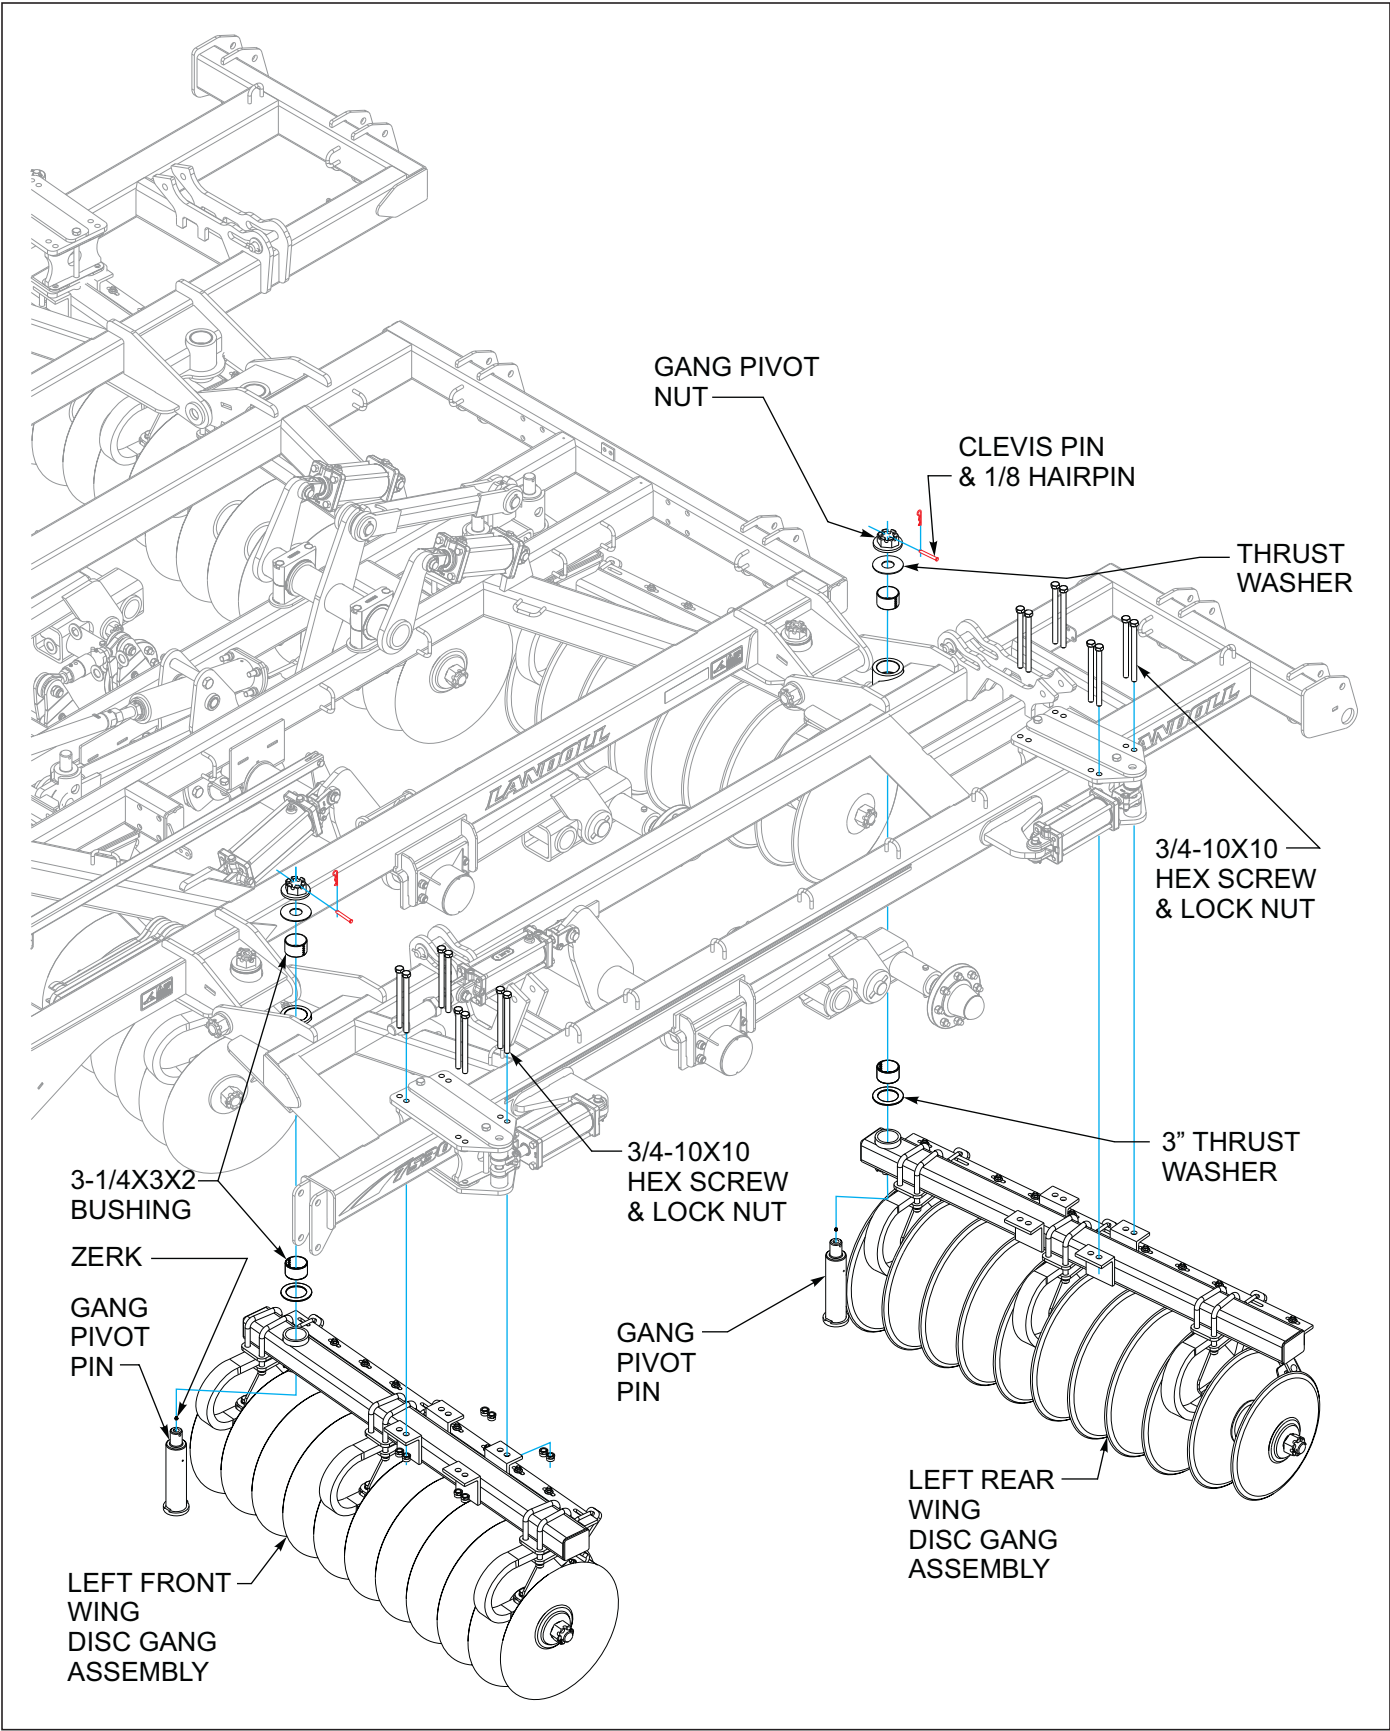
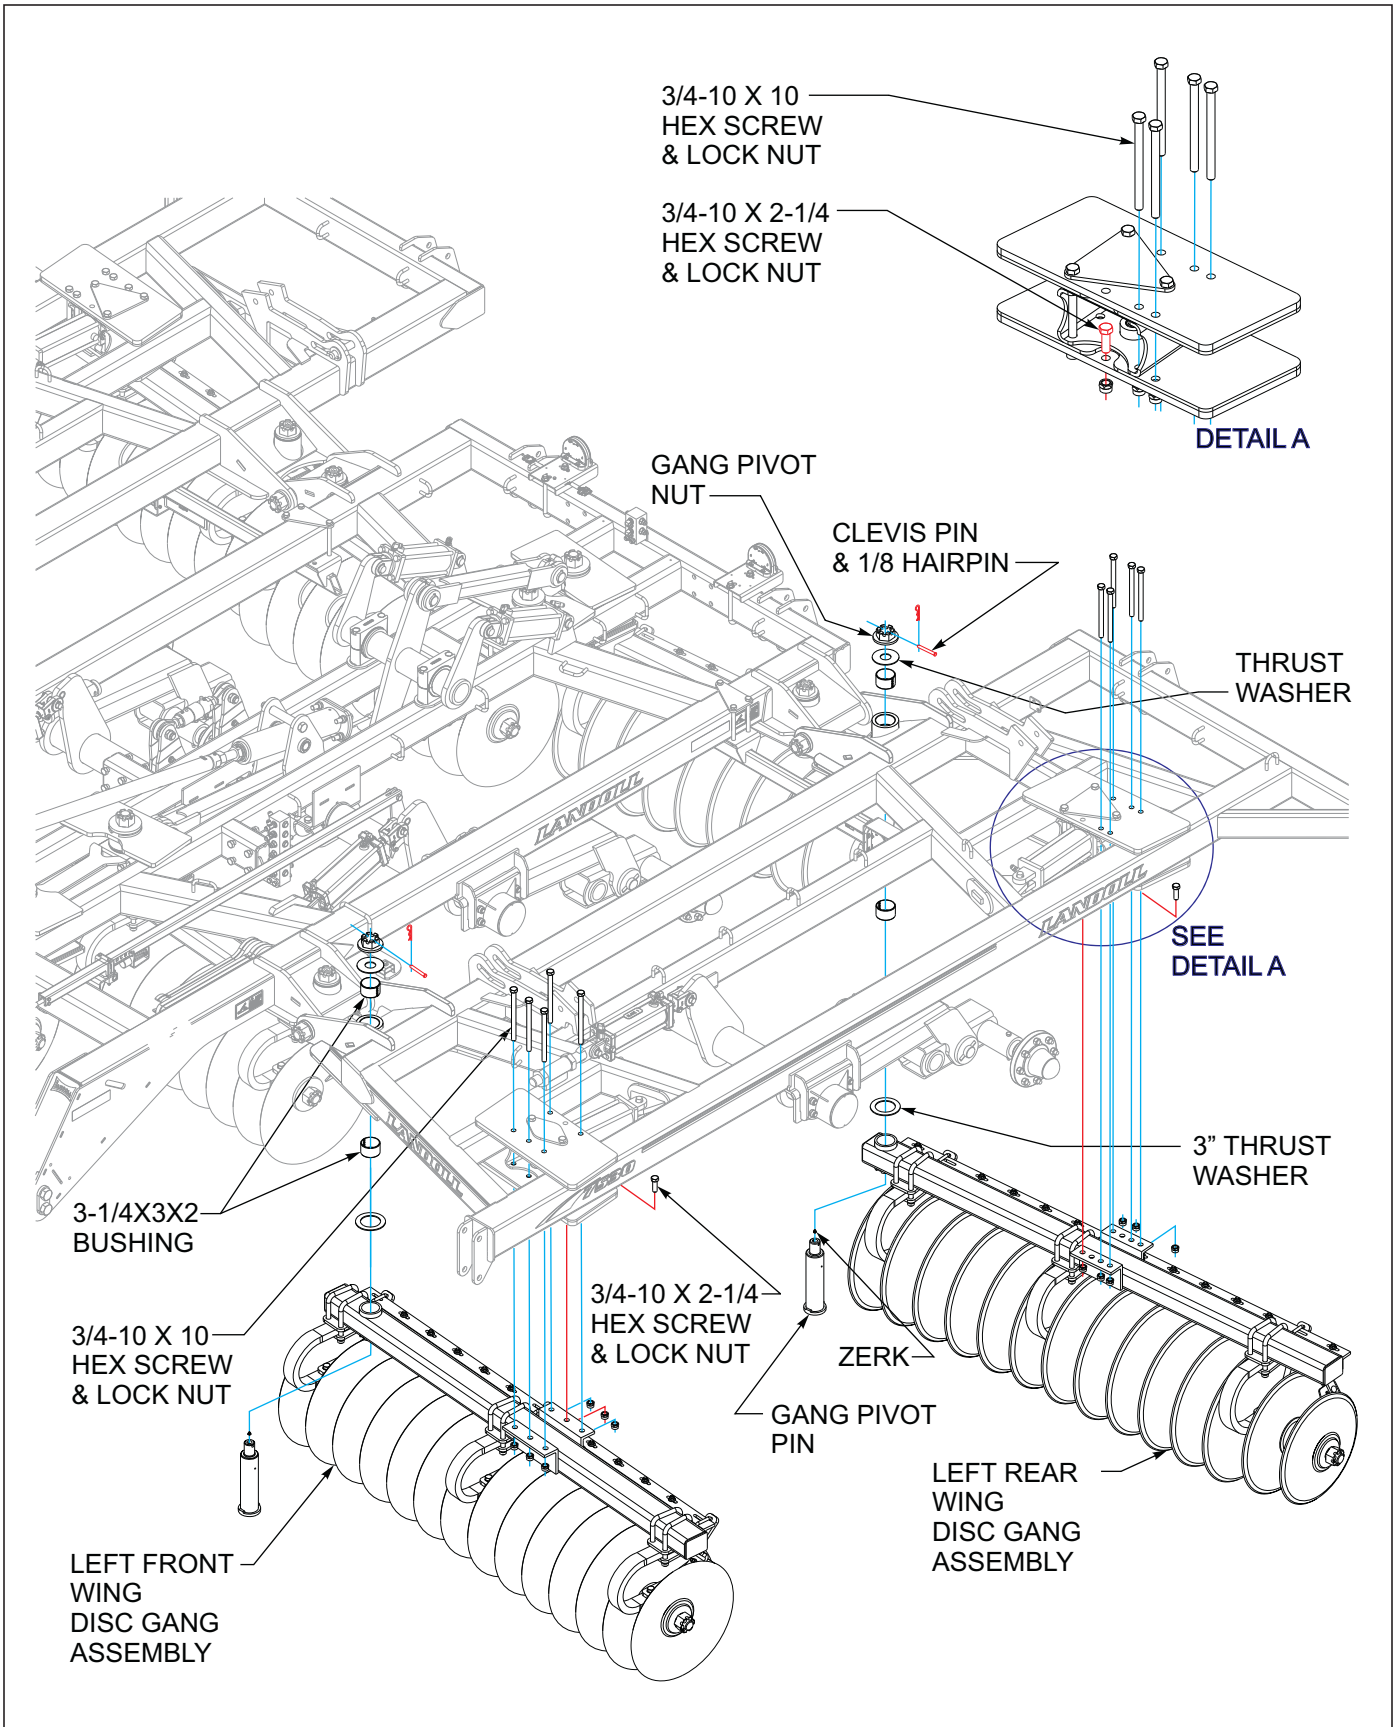
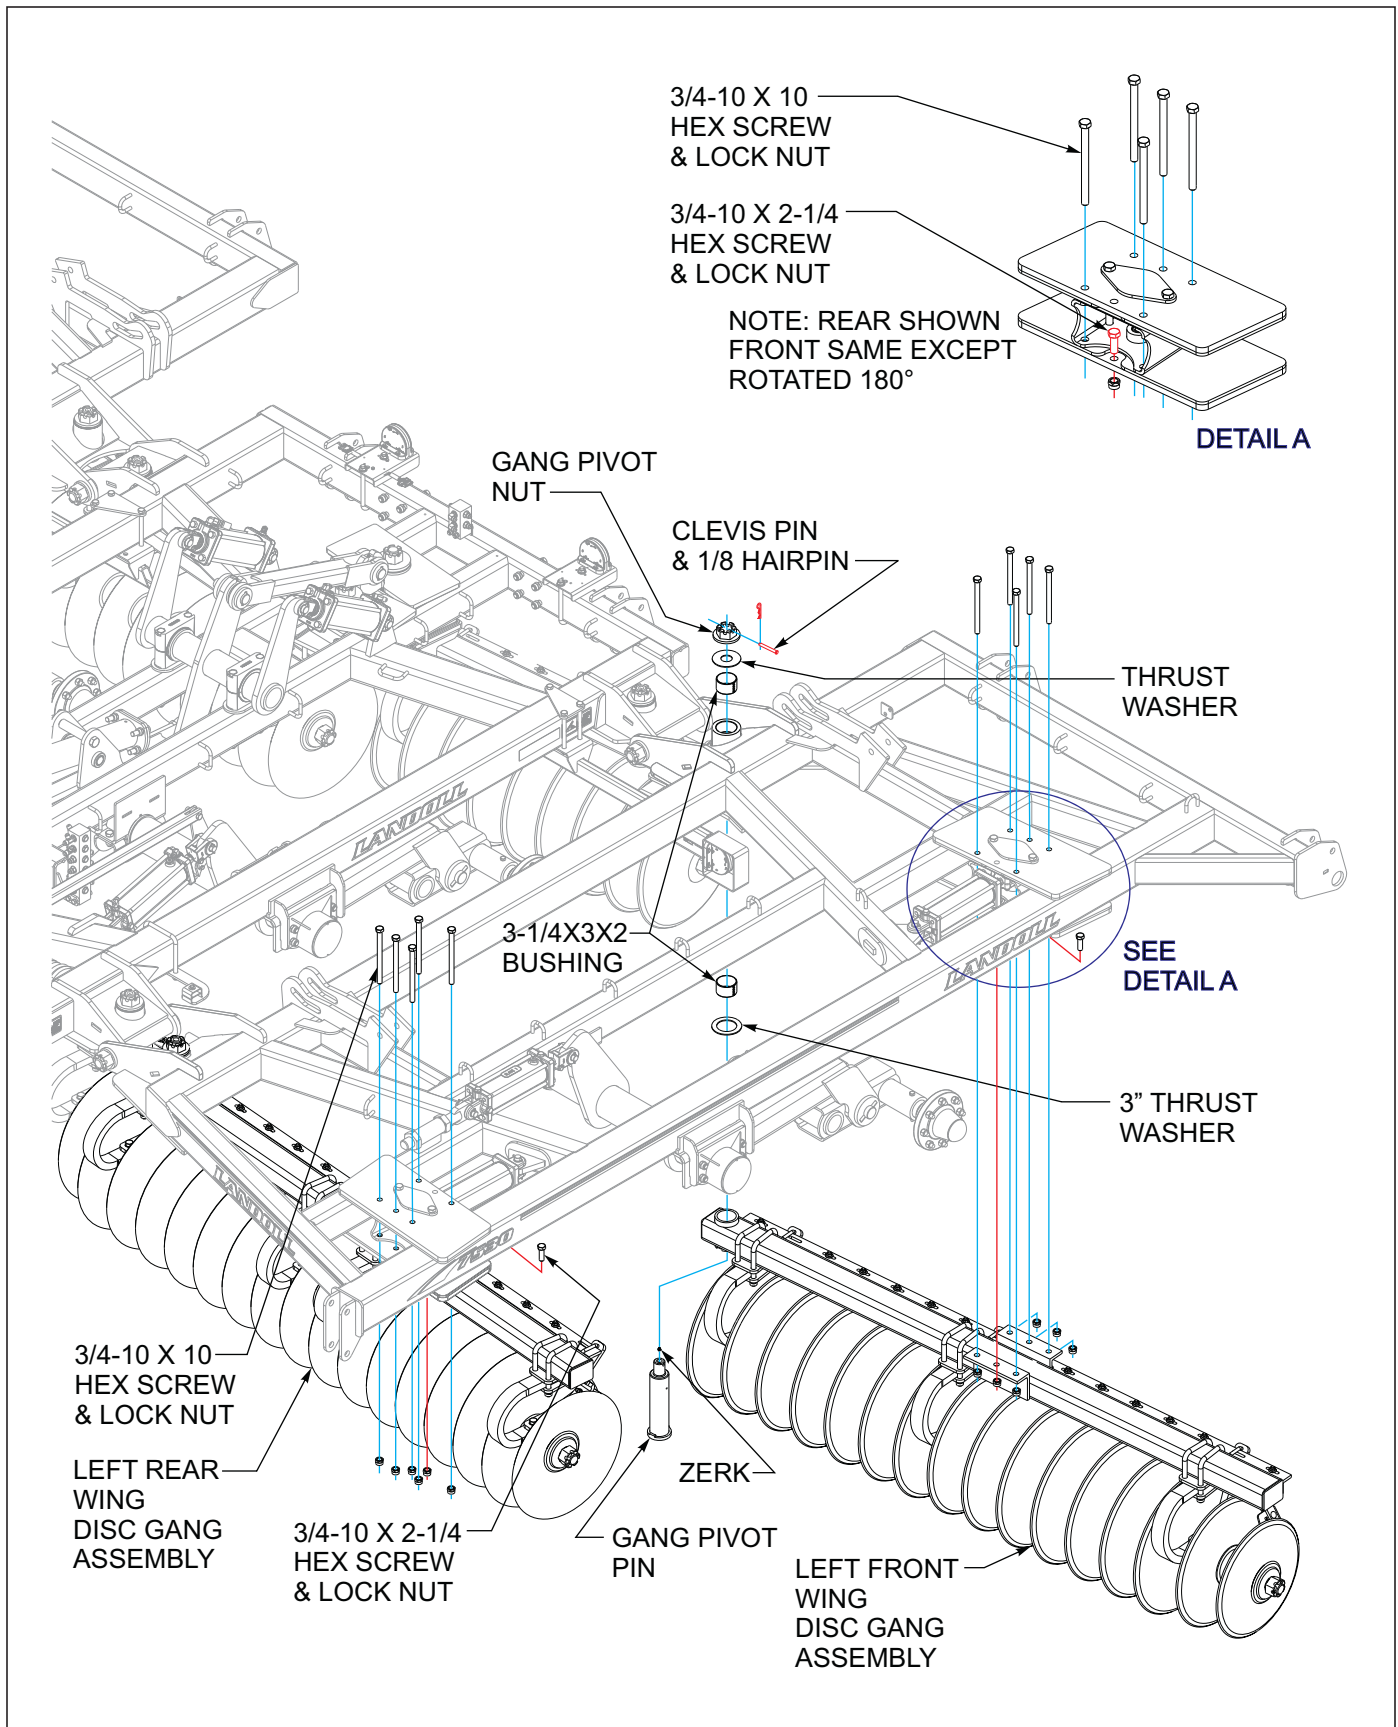

Figure 3-24: Wing Disc Gang Installation 7530-23'
Figure 3-25: Wing Disc Gang Installation 7530-26'
Figure 3-26: Wing Disc Gang Installation 7530-29'/32'/35'
1. Like the center frame gangs, install the front gangs first to keep the front end from coming up uncontrolled. Position the gang assemblies under the wing frame (**See Figures 3-24, 7530-23', See Figures 3-25, 7530-26' and See Figures 3-26, 7530-29'/32'/35'**) and insert the gang pivot pin through gang pivot tube of gangbar, there are notches that will need to be aligned so the pin will not rotate in the gang bar. Install the 3" stainless steel thrust washer over the gang pivot pin, and pin will go on through the gang pivot mount welded to the inside of the wing frame hinges. Install the thrust stainless steel washer to the threaded end of the gang pivot pin along with the gang pivot nut. If the top bushing in the wing frame pivot comes out a little while the pin is going through, just put the gang pivot nut on and hand tighten down to press it back into place.
2. Align the slide plates on the outer part of the wing up to the gang bar and install five 3/4-10 x 10 bolts into the slide plates and through the angle iron on the gang bar. (**See Figures 3-24, 7530-23', See Figures 3-25, 7530-26' and See Figures 3-26, 7530-29'/32'/35'**) for placement of the bolts. Once the gangs are secure from the 10" bolts, install one 3/4-10 x 2-1/4 bolt, see Detail A, under the clevis of each outer wing gang slide cylinder. This will go through the bottom plates and the angle iron on the gang bar.